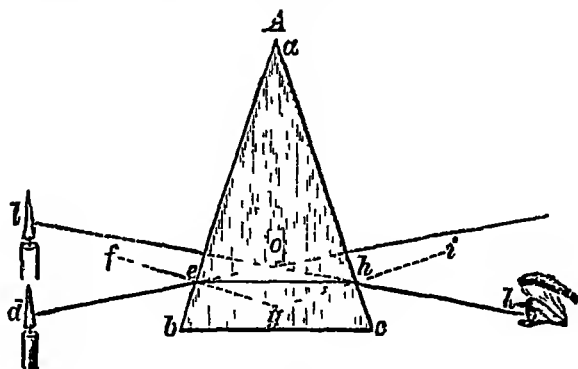

FIG 96.
**Prisms**—Hold a prism in the hand, and look through it at a lighted candle (fig 96), the candle seems raised, the ray  $d e$  is refracted as  $e h$  and  $h k$ , the eye sees the image of the candle at  $l$